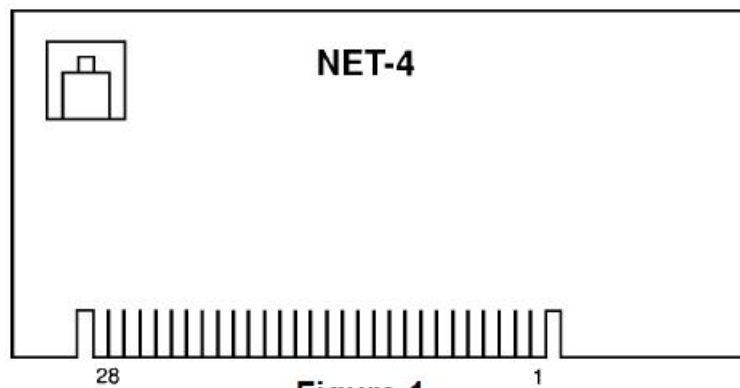

Figure 1
3. Insert the NET-4 into the card edge connector P7 on the PSR-1 with the components facing the right side of the PSR-1. (See Figure 1.)